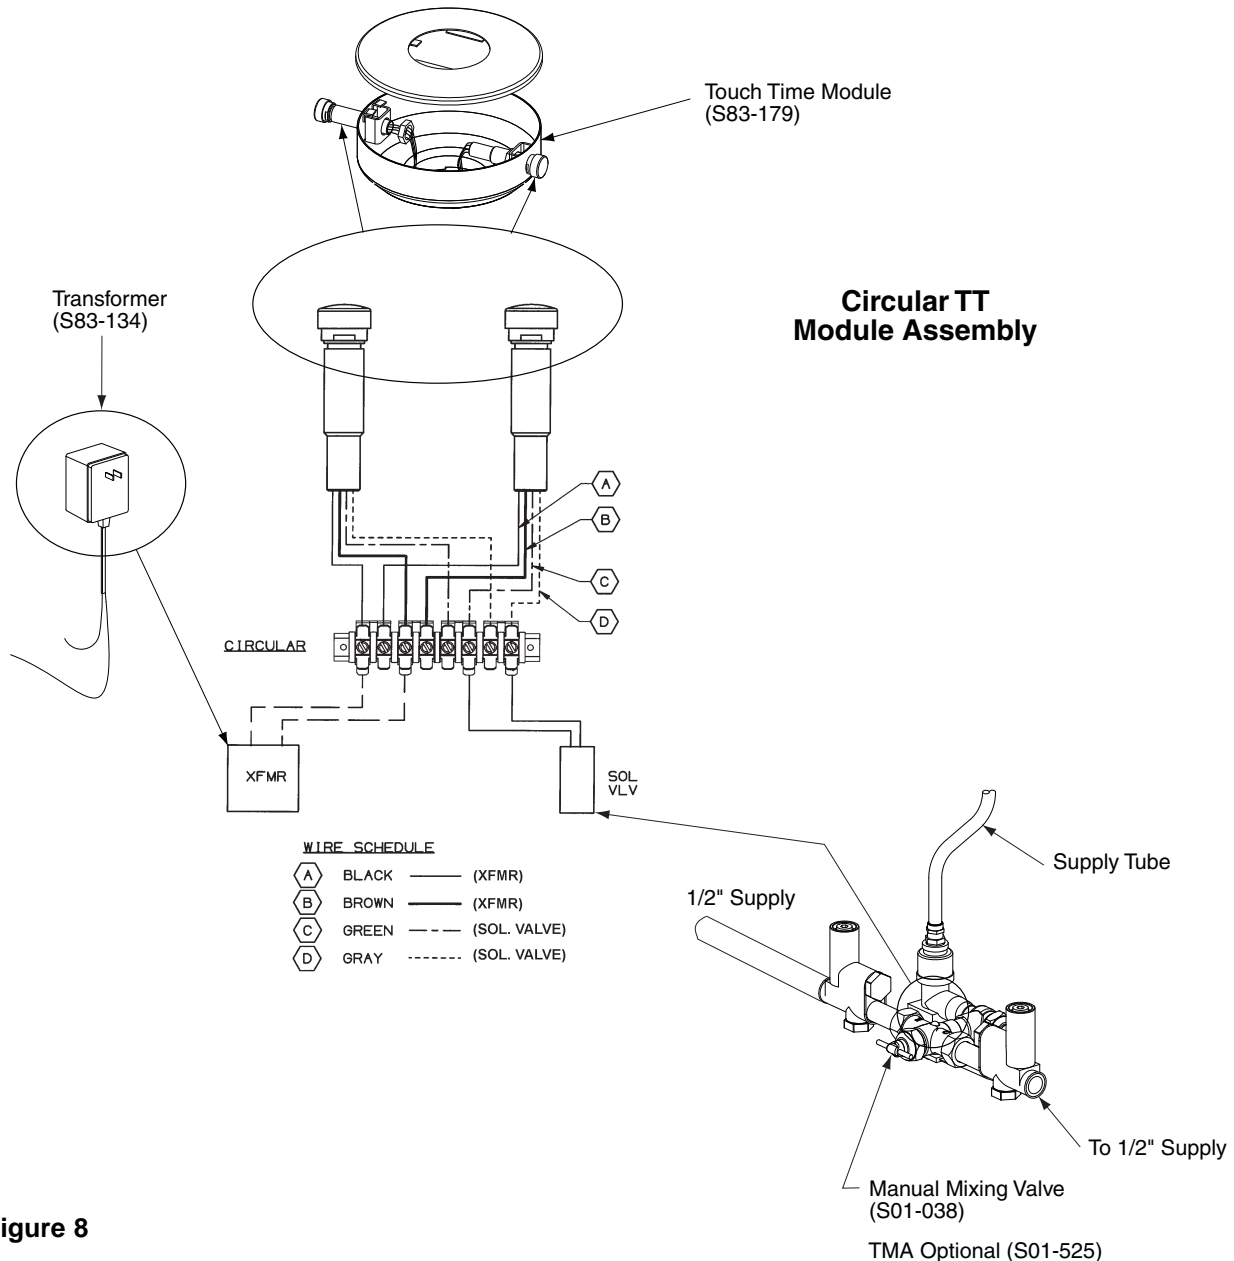

Figure 8
5. Connect the eight wires from the two Touch Time switches in the Touch Time module assembly to the terminal block as shown in Figure 8 on Page 14.
4. Connect the eight wires from the two Touch Time switches in the Touch Time module assembly to the terminal block as shown in Figure 8 on Page 14.
2. Connect the two transformer wires, and the two wires from the solenoid valve to the terminal block. (The eight wires from the two Touch Time switches were previously connected in Step 4). See Figure 8.
- c. Connect the volt meter leads from the transformer as shown in Figure 8 on page 14.
4. Test the solenoid valve following the procedure outlined below (see Figure 8 on page 14):